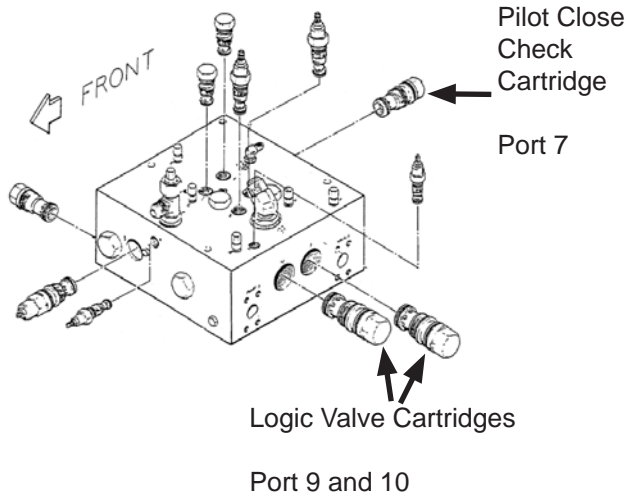

Figure 5-30 Plunger Cylinder Valve Assembly
1. Remove Pilot Close Check and Logic Valve Cartridges (see Figure 5-30).